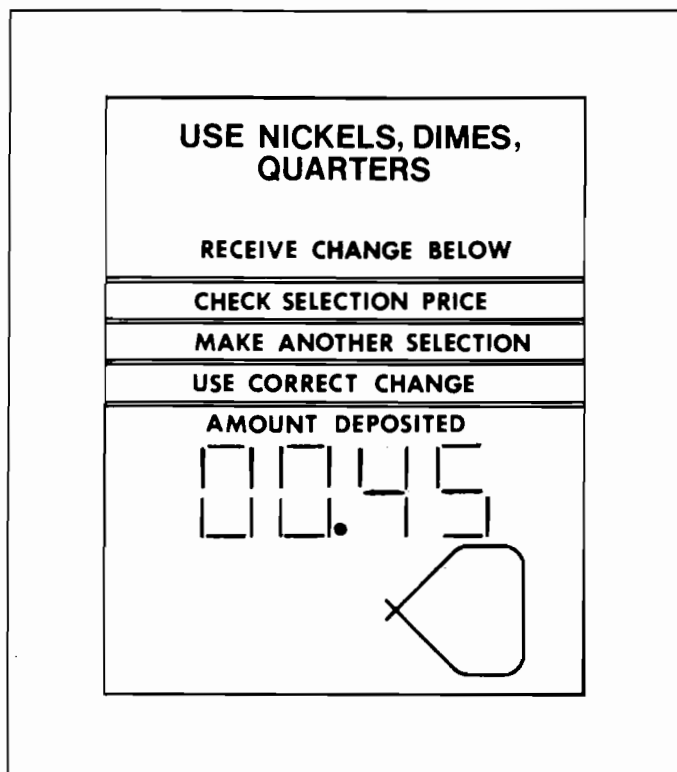

Figure 15. SHOWING A SELECTION PROGRAMMED FOR 45¢
- B. Press the letter and then the number for the first selection to be checked. The price display will show the price that selection is programmed for (Figure 15). Check the displayed price against the price tab on the shelf for that selection.